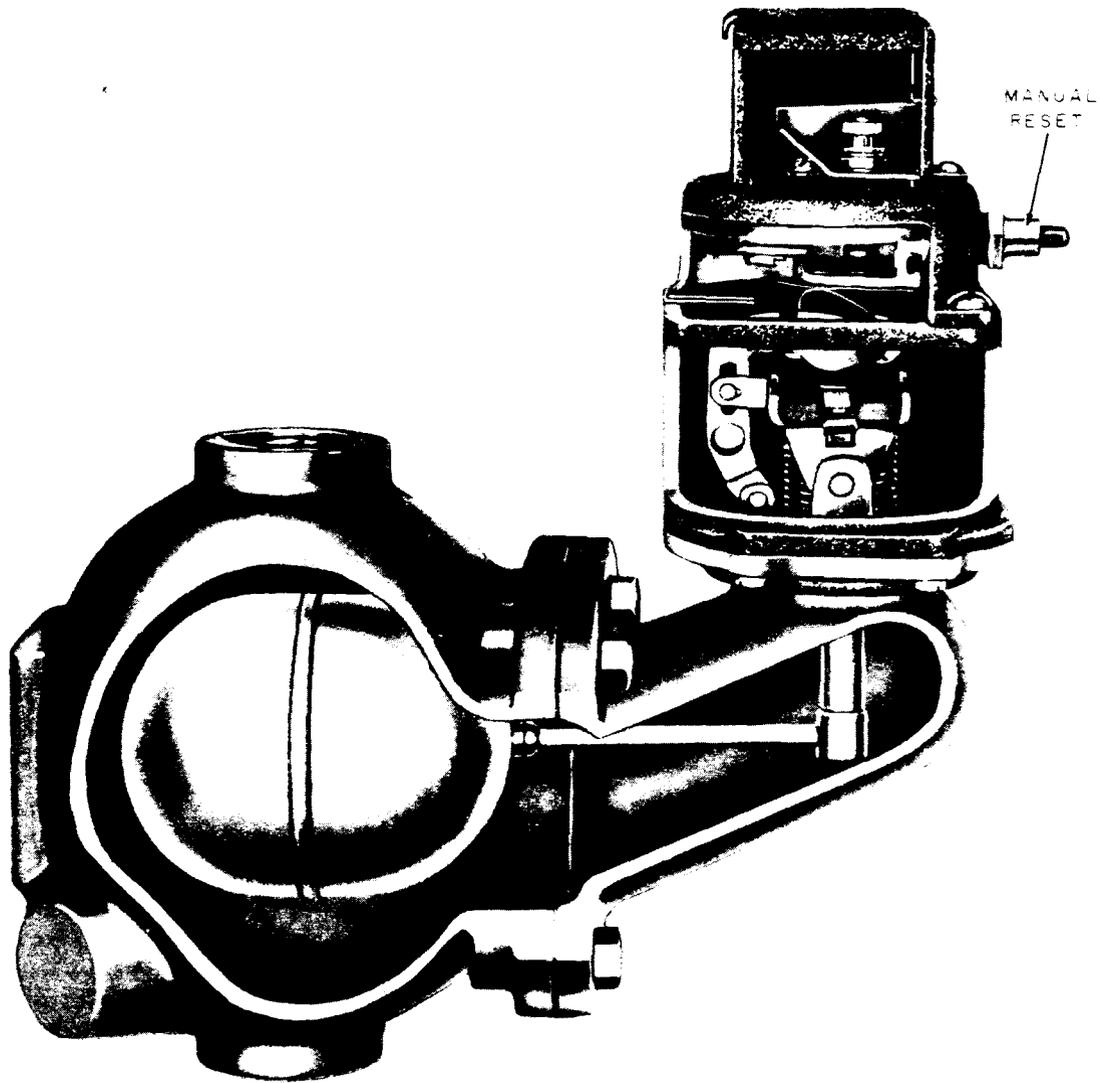
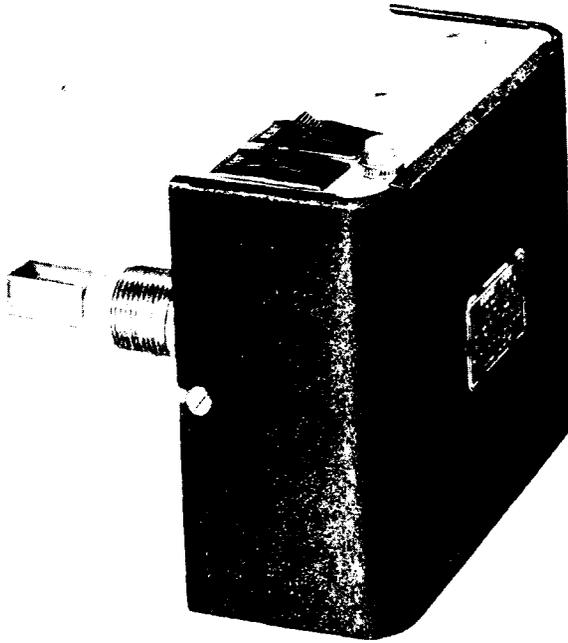

Fig. 2—Low Water Fuel Cutoff With Manual Reset—Mechanical Switch (Reprinted with permission, McDonnell & Miller ITT)
Fig. 3—Probe-Type Low Water Control (Reprinted with permission, McDonnell & Miller ITT)
2.10 Hot water boilers are filled with water and the normal way of maintaining the system full is with a pressure-activated valve. A low water limit control which shuts down the burner when the water level reaches a predetermined level is required. A probe or float type can be used. See Fig. 2 for a float-type control and Fig. 3 for a probe type.